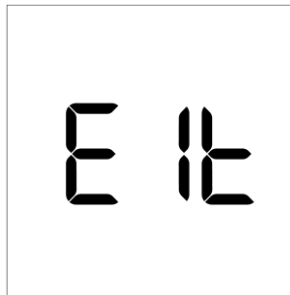

Fig 5.22
- Press power button to save the Assessment of CHD set and exit the system settings (Ref Fig 5.22).